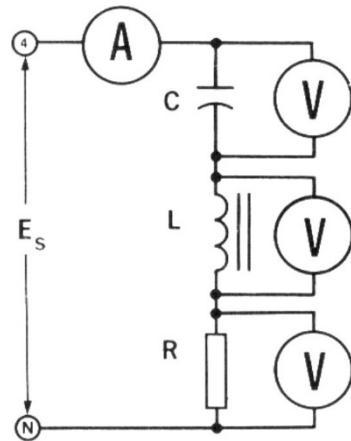

Figure 03-7.
- 3) Using the Variable resistance, Variable capacitance, and Variable inductance modules, construct the circuit shown in Figure 03-7:
Next, without turning the PS OFF and readjusting the input voltage, reconstruct the circuit Figure 03-7 by connecting the voltmeter  $E_1$  back to its original position. Note: **use extra caution when making any connections while the power in the circuit is ON even though the circuit voltages are relatively low!**